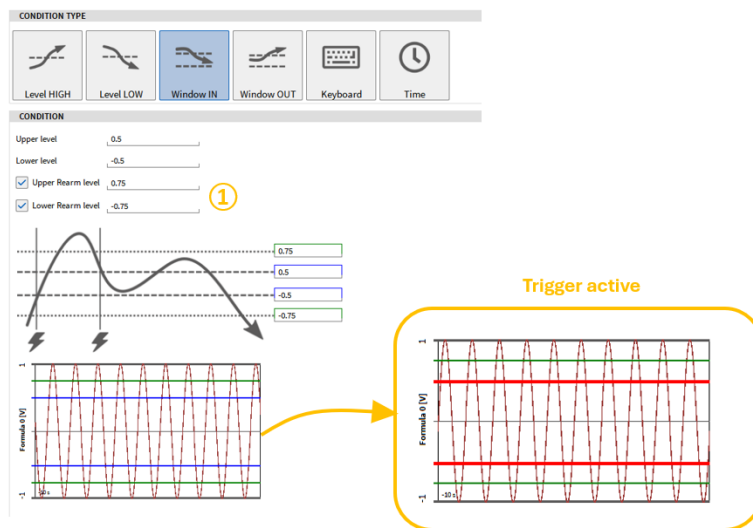

Fig. 9.8: Trigger on *Window IN*
- **Window IN:** Activate Event if selected signal is within a certain range. The user can define an upper and a lower limit (see Fig. 9.8). A *Rearm Level* that must be passed before the trigger is activated again can optionally be defined for the lower and upper limit (see ① in Fig. 9.8).